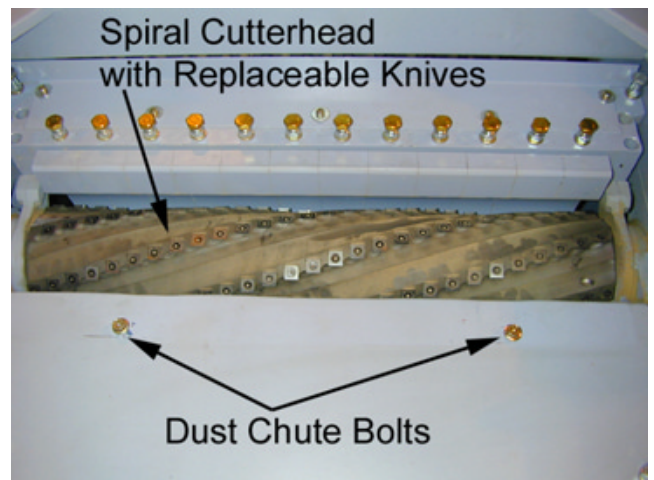

Figure 28
2. With the dust chute removed the *cutterhead* and the *knives* are exposed, see **Figure 28**.